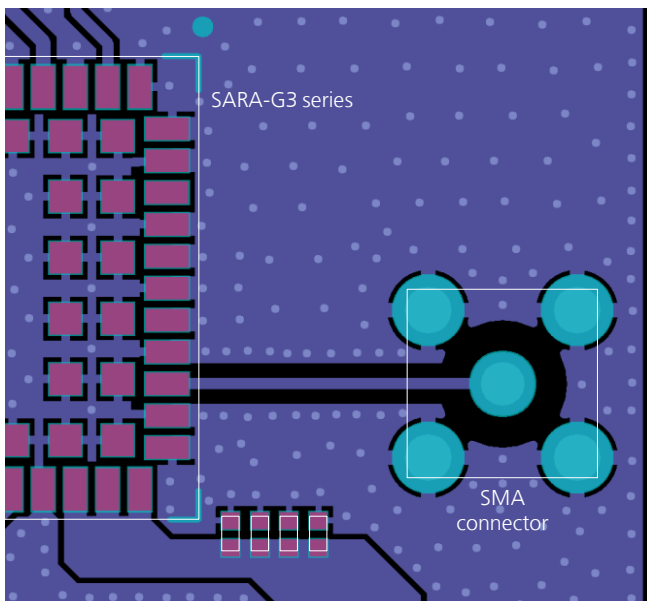

Figure 37: Suggested circuit and layout for antenna RF circuit on application board, if antenna detection is not required
- Add GND vias around transmission line, as described in Figure 37
- Ensure solid metal connection of the adjacent metal layer on the PCB stack-up to main ground layer, providing enough on the adjacent metal layer, as described in Figure 37
An example of proper RF circuit design is reported in the Figure 37. In this case, the antenna detection circuit is not implemented: the **ANT** pin is directly connected to an SMA connector by means of a proper 50  $\Omega$  transmission line, designed with proper layout.
- SMA Pin-Through-Hole connectors require GND keep-out (i.e. clearance, a void area) on all the layers around the central pin up to annular pads of the four GND posts, as shown in Figure 37
If the antenna detection function is not required by the customer application, the **ANT\_DET** pin can be left not connected and the **ANT** pin can be directly connected to the antenna connector by means of a 50  $\Omega$  transmission line as described in Figure 37.